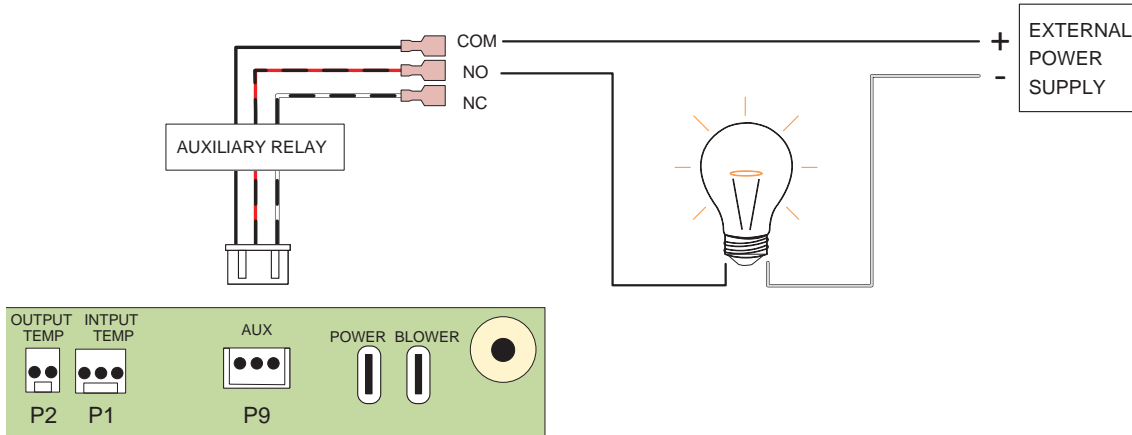

Figure 145. Auxiliary Relay
- **P9 Auxiliary is a dry contact output:** It requires external power supply to energize connected devices. See Figure 145.